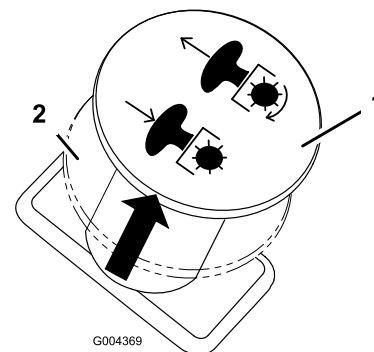

Figure 14
3. Pull out on the blade control switch to engage blades (Figure 14).
Push the blade control switch to Off to disengage the blades (Figure 14).